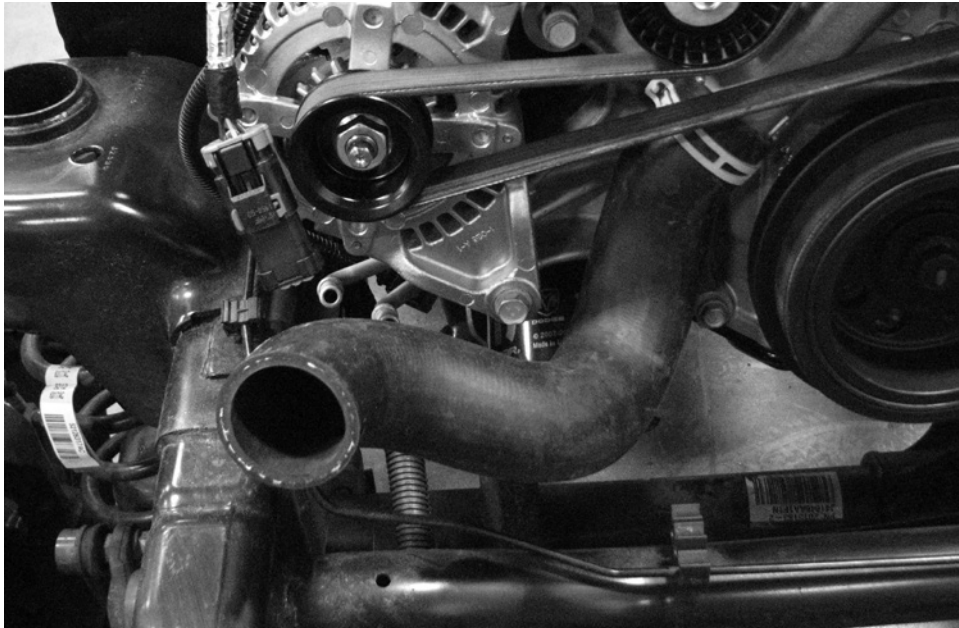

fig. 9
1. Install the lower radiator hose as shown (fig. 9.)